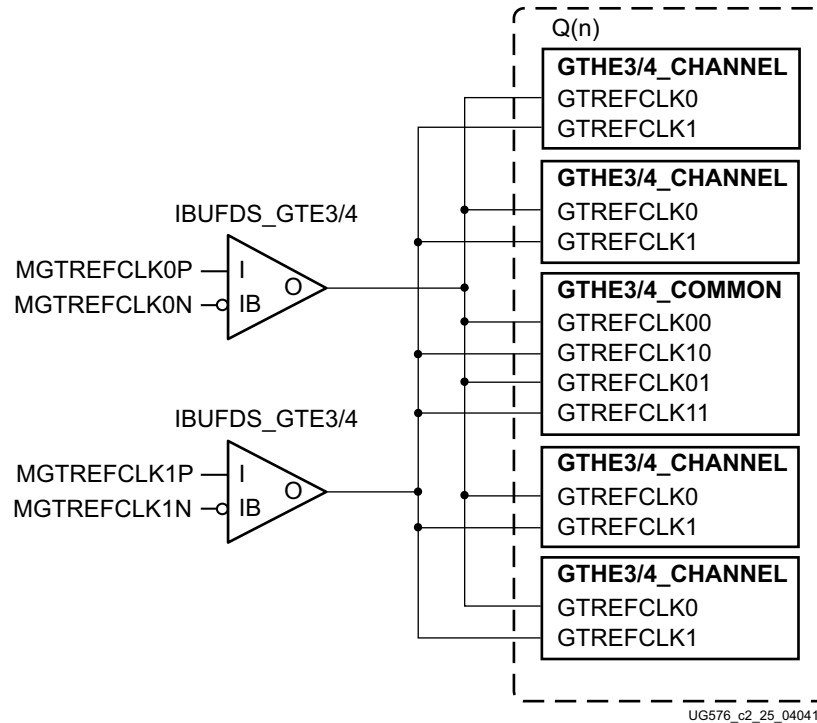

Figure 2-8: Multiple GTH Transceivers with Multiple Reference Clocks in a Single Quad
Figure 2-8 shows the QPLLs of each Quad, and the CPLL of each transceiver can be sourced by either MGTREFCLK0[P/N] or MGTREFCLK1[P/N] within a single Quad. Users can set QPLL0/1REFCLKSEL[2:0] and CPLLREFCLKSEL[2:0] to the corresponding values to select the source of the reference clock.
**Note:** The IBUFDS\_GTE3/4 diagram in Figure 2-8 is a simplification. The output port ODIV2 is left floating, and the input port CEB is set to logic 0.